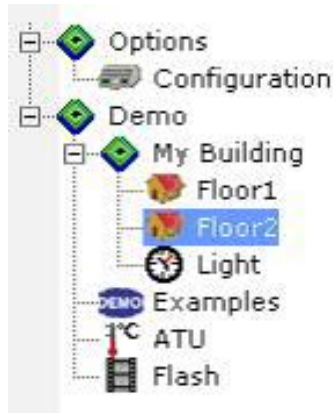
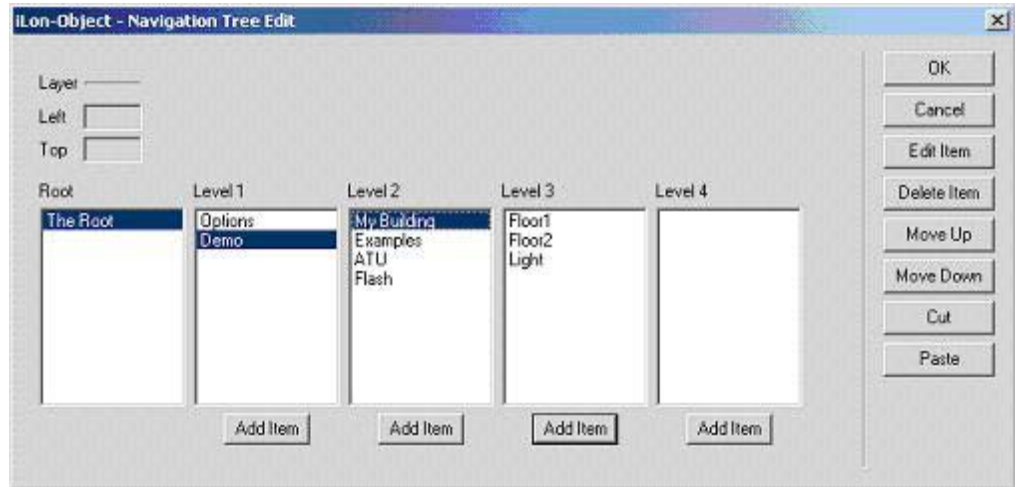

Figure 13.58 Demo Navigation Tree
Figure 13.59 Navigation Tree Edit
You can use the **Sidebar.htm** page to set up the left sidebar for your custom Web pages. The sidebar for the Demo area of the *iLON 100* Web site includes a navigation bar that you can use to browse Web pages for the various floors and rooms on a building, as shown in Figure 13.58.
- Click the *iLON* button, and then select **Navigation Tree**. The dialog shown in Figure 13.59 opens.
- The dialog in Figure 13.59 shows how you would configure the navigation tree shown in Figure 13.58. The **Level 1** column shows the two main levels in the tree – **Options** and **Demo**. The **Level Two** column shows the next level down the tree, for the node currently selected in the **Level One** column. The **Level Three** column shows the next level down the tree, for the node selected in the **Level Two** column. The **Level Four** column shows the next level down the tree, for the node selected in the **Level Three** column.